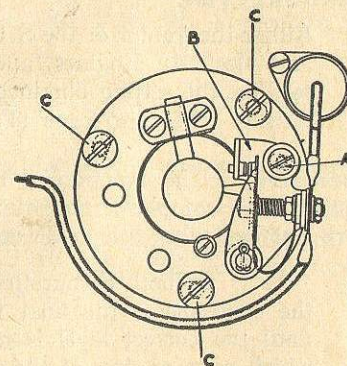

Fig. 4.—Contact-breaker assembly.
**Contact Breaker Adjustment.** The contact breaker assembly, Fig. 4 and condenser are secured to the left-hand side of the crankcase, underneath the detachable cover. The contact breaker points may require adjustment at intervals, although this should not be done unless it is definitely necessary.
If it is either more or less than this figure, slacken the screw "A" shown on Fig. 4 and move the bracket "B" in the required direction to obtain the correct clearance.
After setting the piston, examine the contact-breaker points, which should be just commencing to open. If they have not done so, or have opened fully, the timing is wrong. Correct as follows:—Slacken the three screws "C" Fig. 4, which secure the complete contact breaker assembly to the crankcase, and move the assembly to the left or right according to the adjustment required. Take care not to damage the sealing washer.